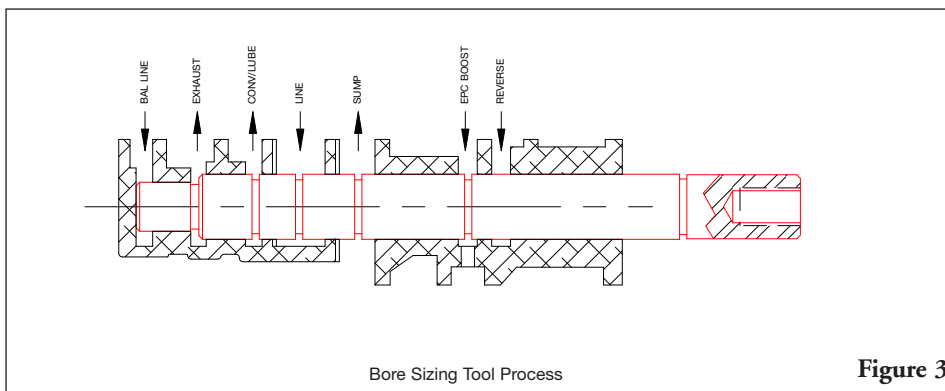

Figure 3
1. Insert the end of the bore sizing tool into the reamed pressure regulator valve bore. Press it into the bore until it bottoms out (see Figure 3).